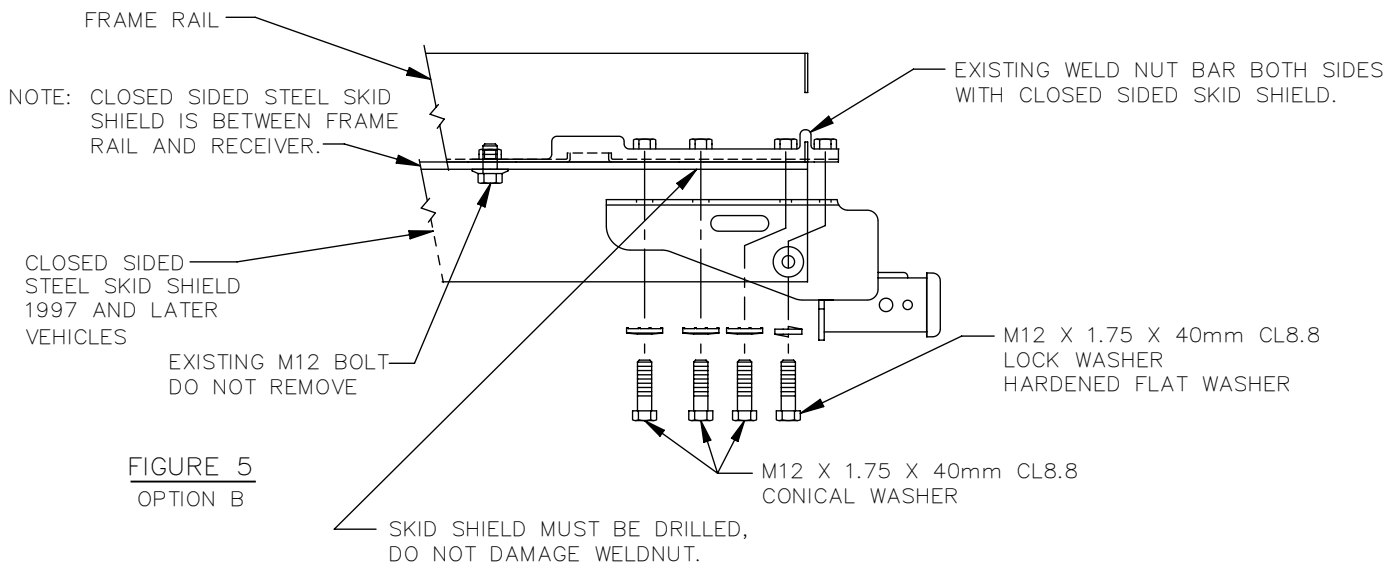

FIGURE 5
OPTION B – SEE FIGURE 5
- C. INSTALL FOUR (4) M12 BOLTS WITH CONICAL WASHERS PROVIDED (THE REARMOST ATTACHMENT HAS A HARDENED FLAT WASHER BETWEEN RECEIVER FLANGE AND LOCKWASHER), EACH SIDE AS SHOWN IN FIGURE 5.